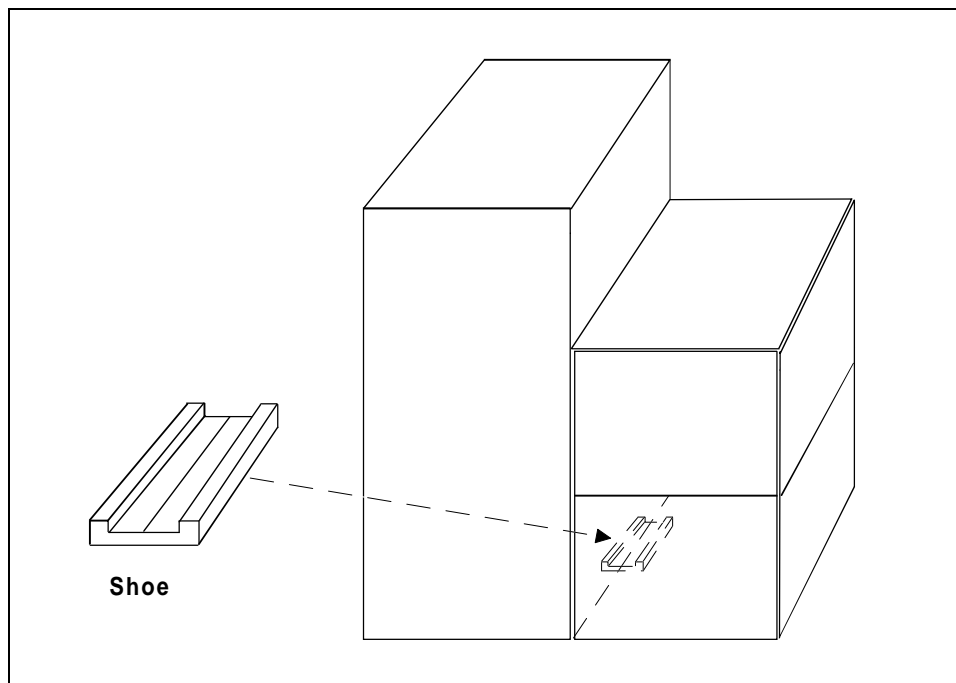

Figure B-2. Shoe Installation
1. The bottom of each module contains a molded ribbing with a pocket on each side midway between the front and the rear of the module. One side of the shoe fits in the pocket of one module and the other side fits in the pocket of the adjacent module (see Figure B-2). To install the shoe, lift the edge of one module away from the adjacent module.